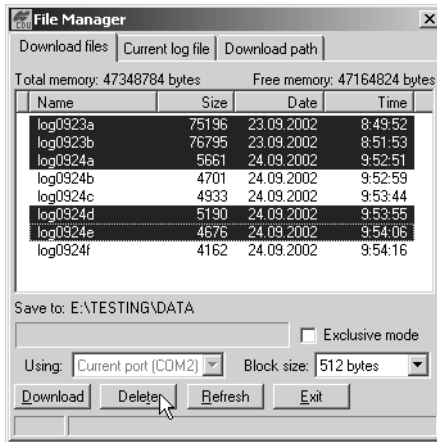

Figure 3-13. Delete Files
- On the *Download files* tab or *Current log files* tab, select the file(s) you want to delete (Figure 3-13 on page 3-15).
- Click **Delete** (Figure 3-13 on page 3-15).